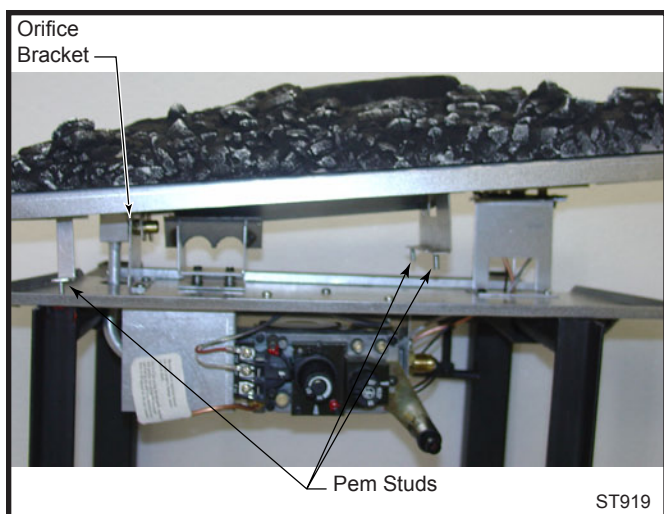

Fig. 79 Tilt ember bed slightly to correctly place on venturi and air shutter.
2. Carefully remove ember bed by tilting the right side up and lifting out toward the right side of the unit. (Fig. 79)
1. Replace burner making sure venturi on bottom of ember bed aligns with orifice and is seated properly on air shutter assembly. (Fig. 79) Make sure burner is slid into place at a slight angle and opposite to how it was removed. When burner is slid into place, the three (3) pem studs should slide down through clearance holes into the bottom of the control panel.